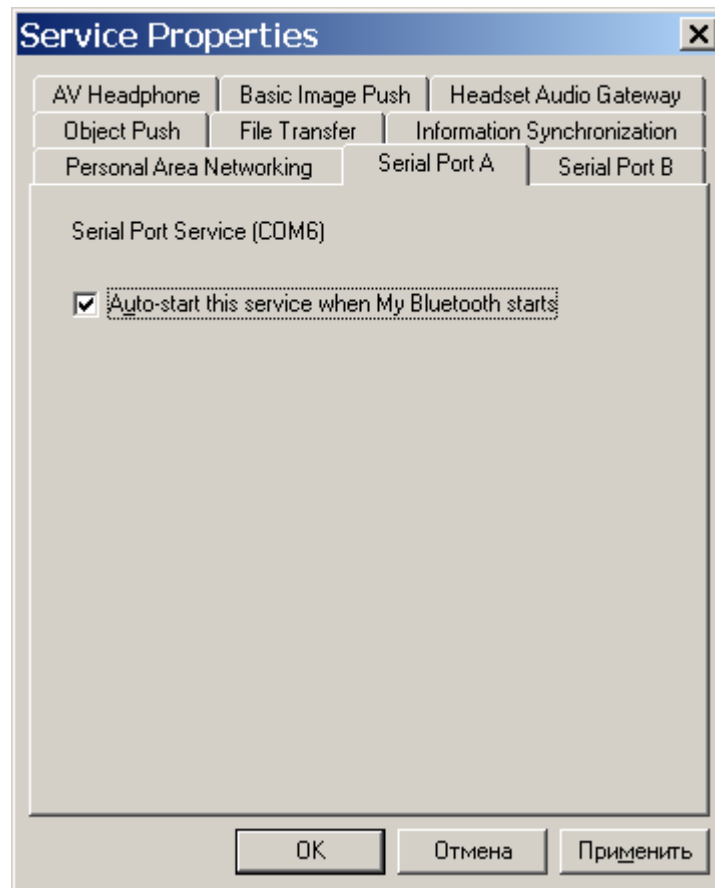

Figure 5 – “Serial Port A” tab setup
- select **My services->Properties...** Set the **Auto-start this service when My Bluetooth starts** check box in the **Serial Port A** tab (Figure 5). Record the value of the **Serial Port Service** component for further setup of the “Cadmium ECOMONITOR” program. Clear the **Auto-start this service when My Bluetooth starts** check box in the **Serial Port B** tab;